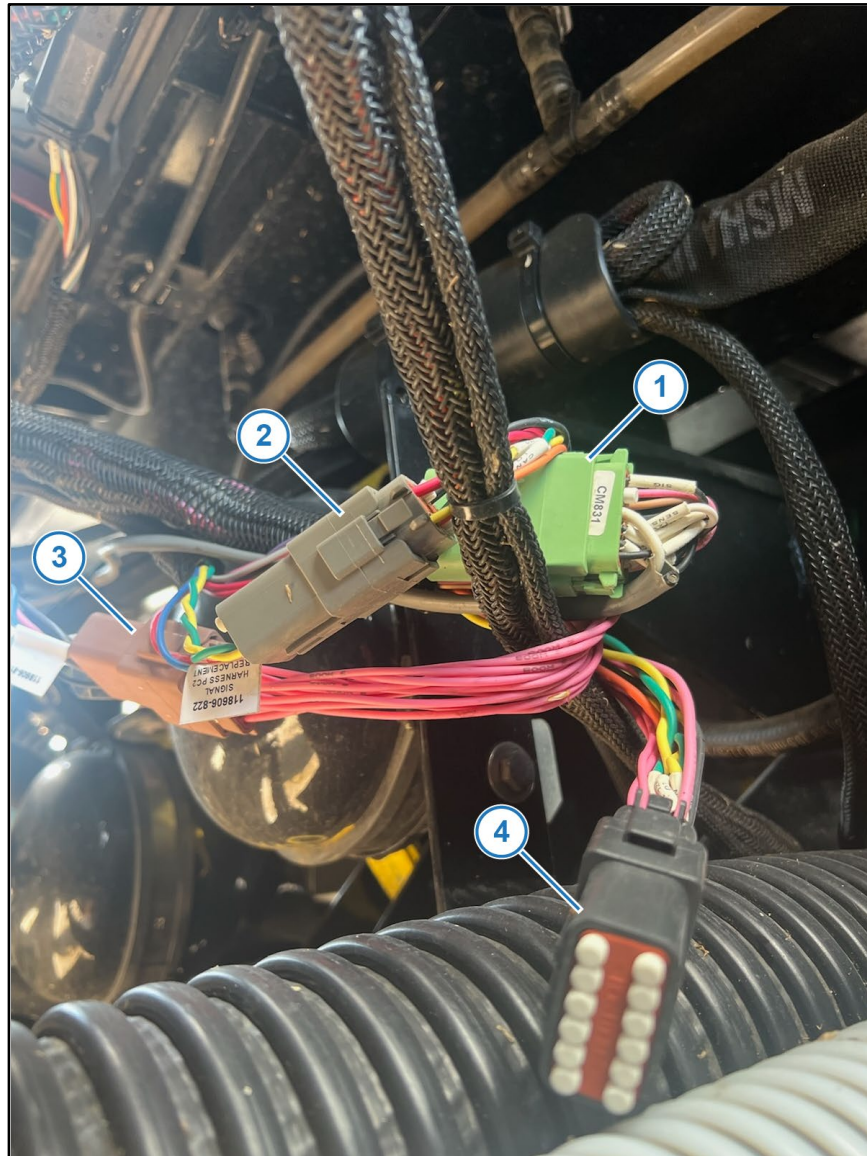

Figure 9 — Product Control Node Removal
14. *Figure 9:* Remove Product Control II Node (PCII) from rear of the machine cab by unplugging gray, green, brown, and black connectors and removing mounting bolts.
15. Plug PCII Node Replacement Signal Harness (118606-822), previously routed under cab from Envelop Hub, into corresponding green (1) and gray (2) plugs previously plugged into PCII Node.
16. Plug PCII Node Replacement Shutoff Harness (118606-811), routed from Envelop Hub, into corresponding brown (3) plug previously plugged into PCII Node. Dust cap black PCII plug (4).